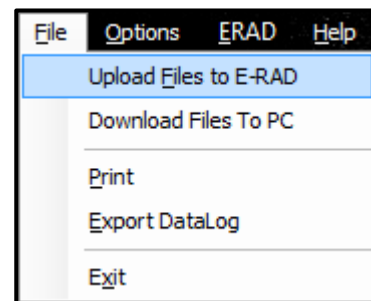

Figure 8.8-2: Upload Files to E-RAD
8. Select **"Upload Files to E-RAD"** from the File drop down menu (Figure 8.8-2).